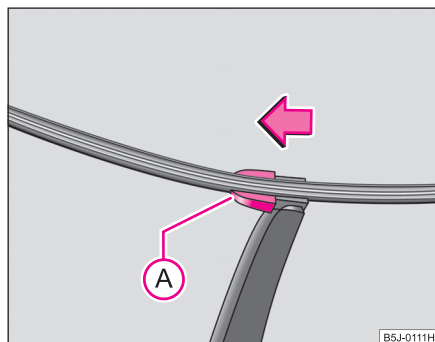

Fig. 47 Wiper blade for rear window
- Fold windscreen wiper arm out from the windscreen and position the wiper blade at right angles to the wiper arm ⇒ fig. 47.
- With the other hand unlock the locking button (A) in the direction of arrow and remove the wiper blade.